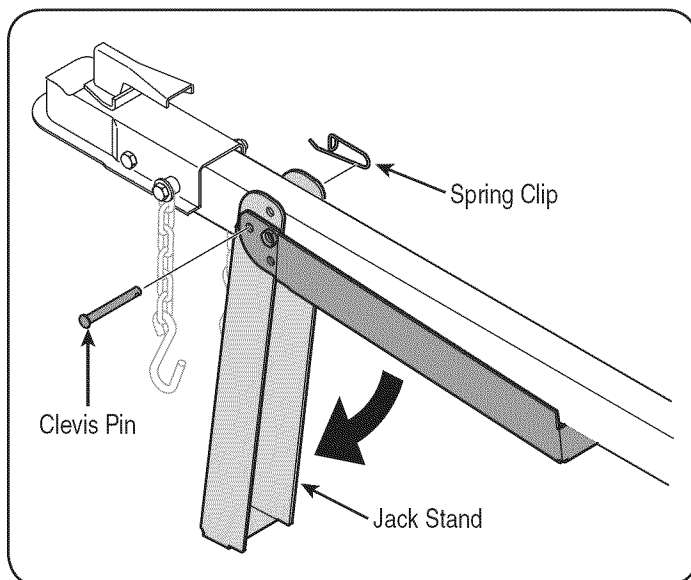

Figure 1
7. Remove the spring clip and clevis pin from the jack stand on the tongue and then pivot the jack stand towards the ground into the operating position. See Figure 1.
8. Secure the jack stand in position with the clevis pin and spring clip. See Figure 1.